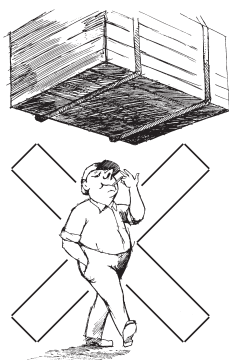

Fig. 2
- **Do not** allow people to pass under a suspended load (see Fig. 2).